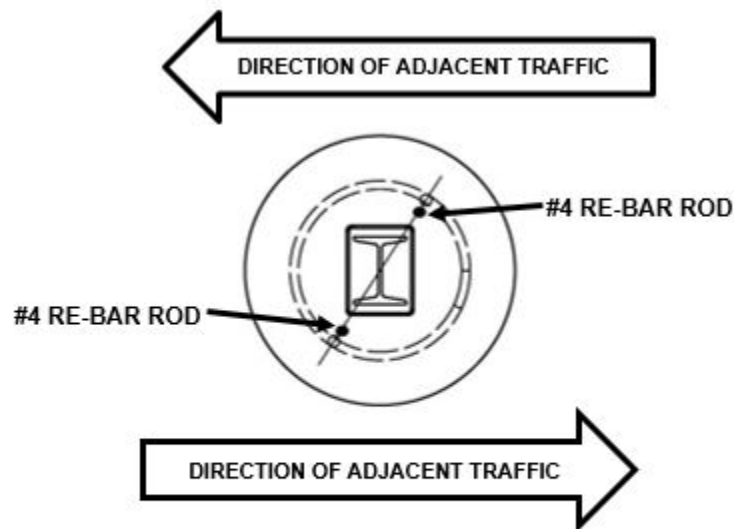

Figure 4
5. Place a re-bar ring (PN-5836B) around the top of the sleeve 2" to 3" [50 mm to 75 mm] from the top of the footing. Place two re-bars (PN-5919B) vertically as shown in Figure 4. If the state/specifying agency requires a deeper footing, the length of the vertical re-bars will be the footing depth minus 4" [100 mm]. The two vertical re-bars do not have to be attached to the ring.